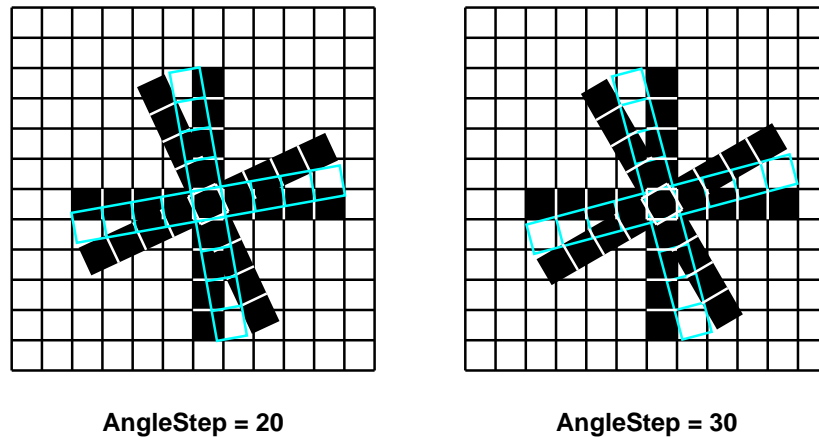

Figure 13: The effect of a large AngleStep on the matching.
- As described in section 2.2.3, HALCON precomputes the model for intermediate angles within the allowed range of orientation. During the search, a candidate match is then compared to all precomputed model instances. If you select a value for the parameter `AngleStep` that is significantly larger than the automatically selected minimum value, the effect depicted in figure 13 can occur: If the object lies between two precomputed angles, points lying far from the center are not matched to a model point, and therefore the score decreases.